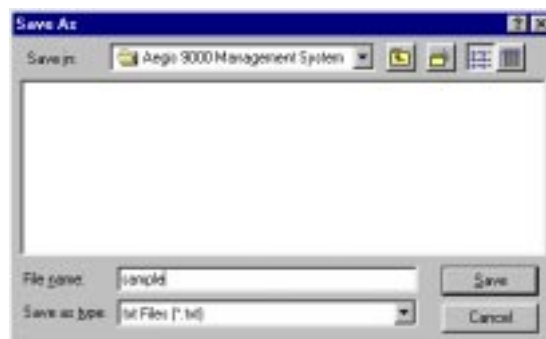

Figure 7.3
Step 3 Click on “**File**” and click on “**Save Received File**” and you will see figure 7.3.